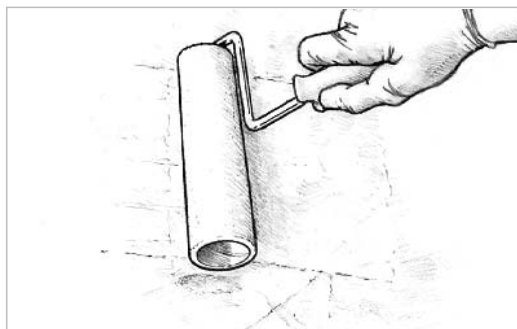

Figure 9-23 Apply the epoxy in thin even coats using a thin foam roller.
4. Roll lightly and randomly over an area approximately 2' × 2' to transfer the epoxy evenly over the area (*Figure 9-23*).